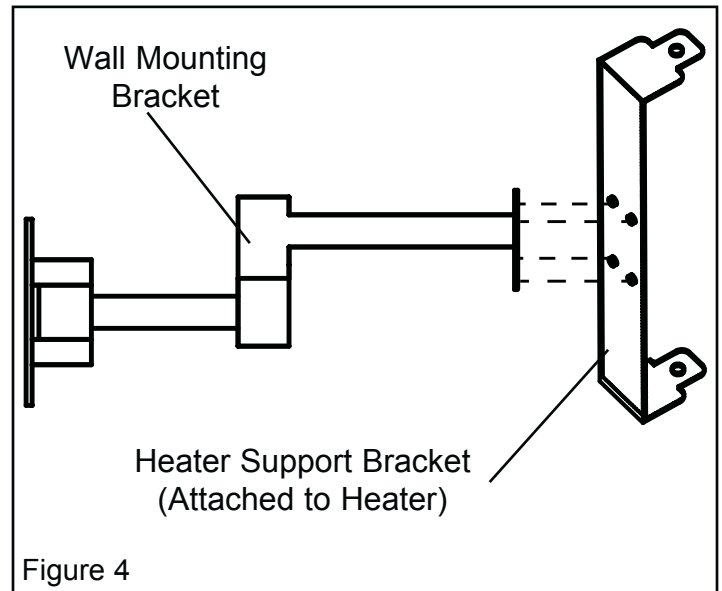

Figure 4
2. Attach heater support bracket to wall mounting bracket using four (4) 10mm screws. (Figure 4)